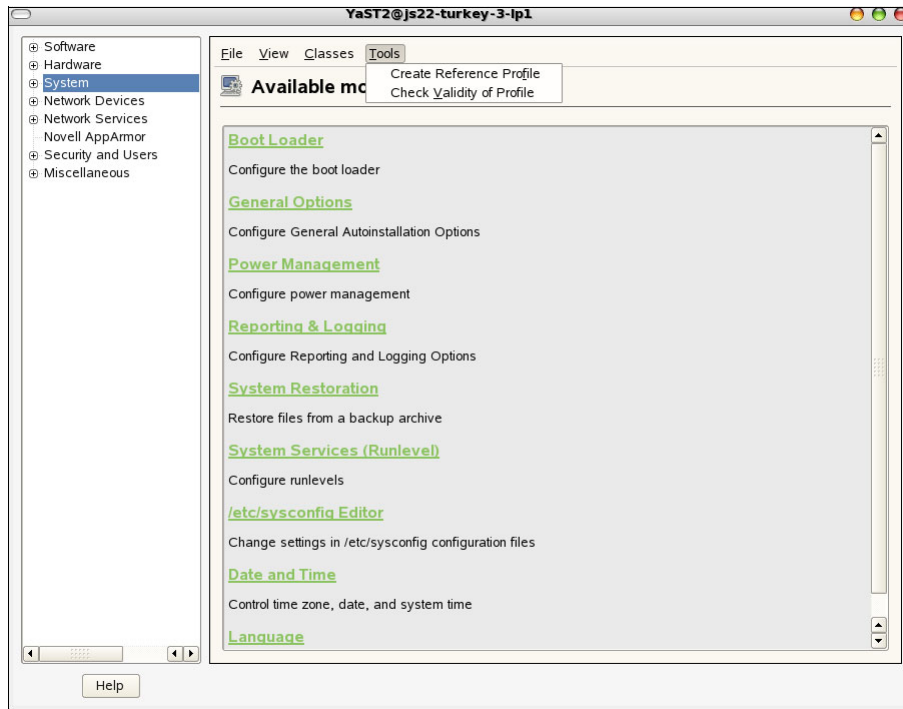

Figure B-5 Create a reference profile
3. Clone the configuration of the installation server by selecting **Tools** → **Create Reference Profile**, as shown in Figure B-5.